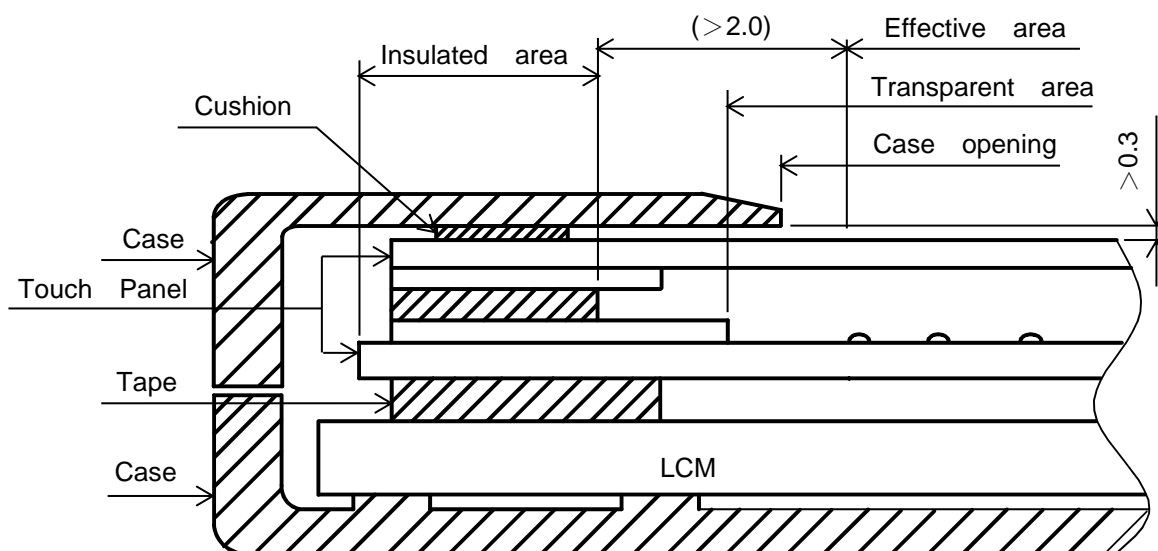

Fig 13.1
1) Please refer to Fig. 13.1 for housing the display with touch panel into applications. The Fig. 13.1 shows some points as below: